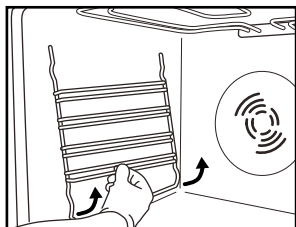

Fig. 3
1. Remove the side accessory holder grills (Fig. 3).